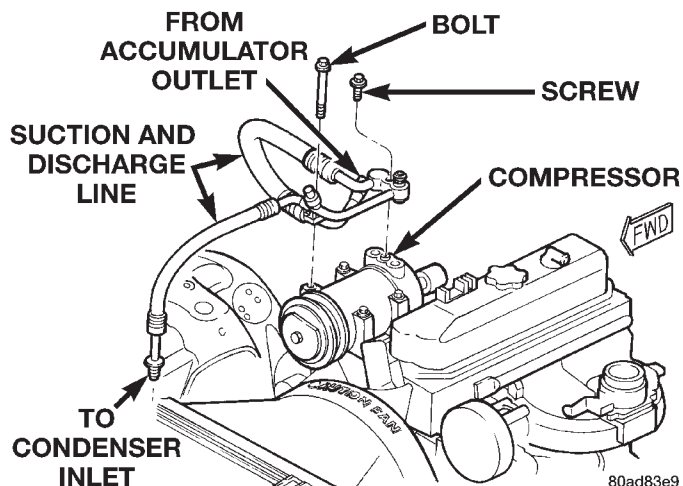

Fig. 16 Suction and Discharge Line Remove/Install - Typical
- (1) Disconnect and isolate the battery negative cable.
- (2) Recover the refrigerant from the refrigerant system. See Refrigerant Recovery in this group for the procedures.
- (3) Unplug the wire harness connector from the high pressure cut-off switch.
- (4) Remove the bolt that secures the discharge line support bracket to the compressor (Fig. 16).
- (5) Disconnect the discharge line refrigerant line fitting from the condenser inlet tube. See Refrigerant Line Coupler in this group for the procedures. Install